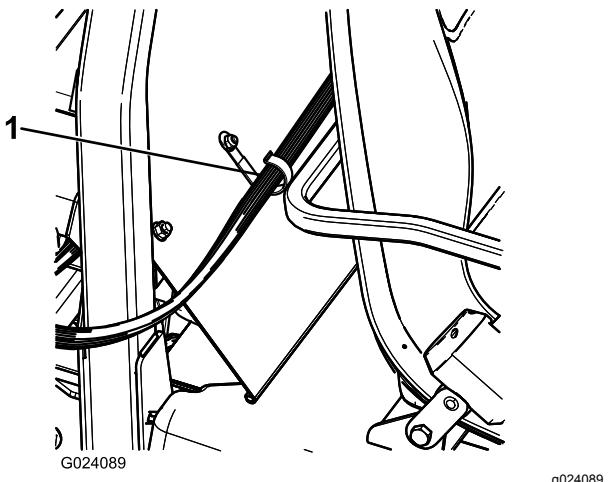

Figure 21
2. Install a J-clip behind the passenger seat using a bolt (1/4 x 1/2 inch) and a flanged nut (1/4 inch) (Figure 21).
3. Secure the control console harness to the console and ROPS cover using the J-clips (Figure 21).